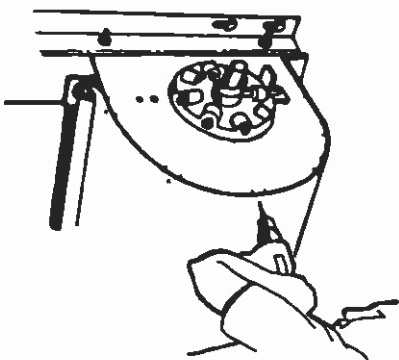

Fig 21
- Attach hood to hood bands on headplate brackets (and to supports if provided) by drilling a 7/32" hole through hood and band. Then secure with 1/4" dia. x 3/8" long self-tapping screws (four per bracket and four per support). See Figures 21 and 22.